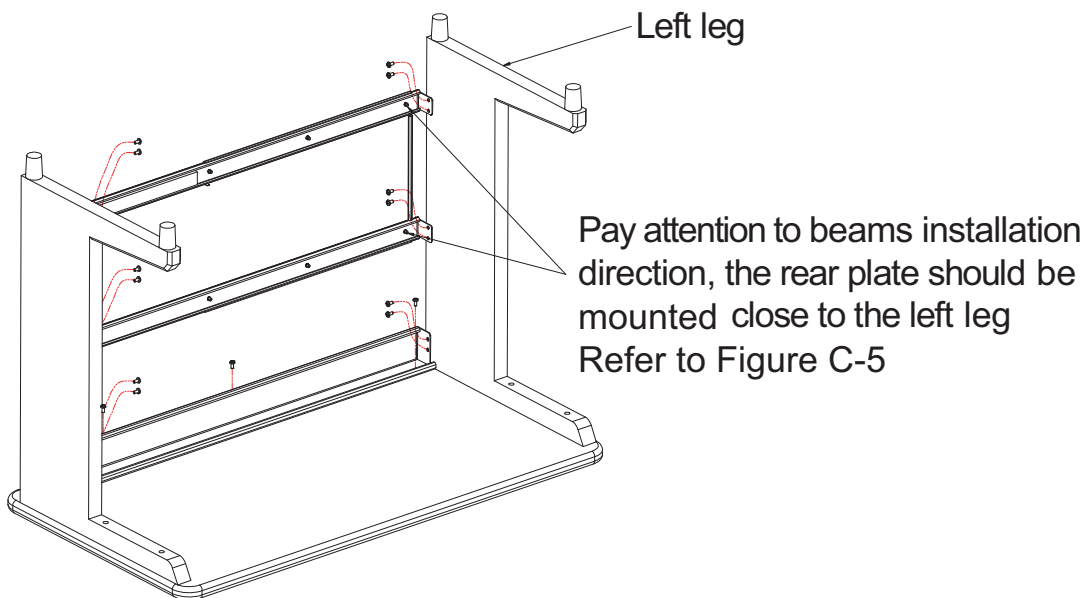

Figure C-4 Beams Installation
- 5.) Install two beams to the left and right legs as shown in Figure C-4. Note to keep all screws loose.